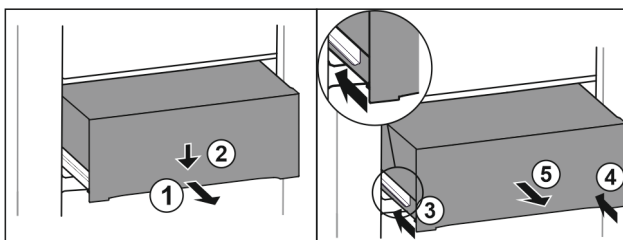

Fig. 129
- Pull out drawer half-way. Fig. 129 (1)
- Push the drawer down at the front. Fig. 129 (2)
- Push the left rail in by about 2 cm. Fig. 129 (3)
- Push the right rail in by about 2 cm. Fig. 129 (4)
- Remove drawer to the front. Fig. 129 (5)